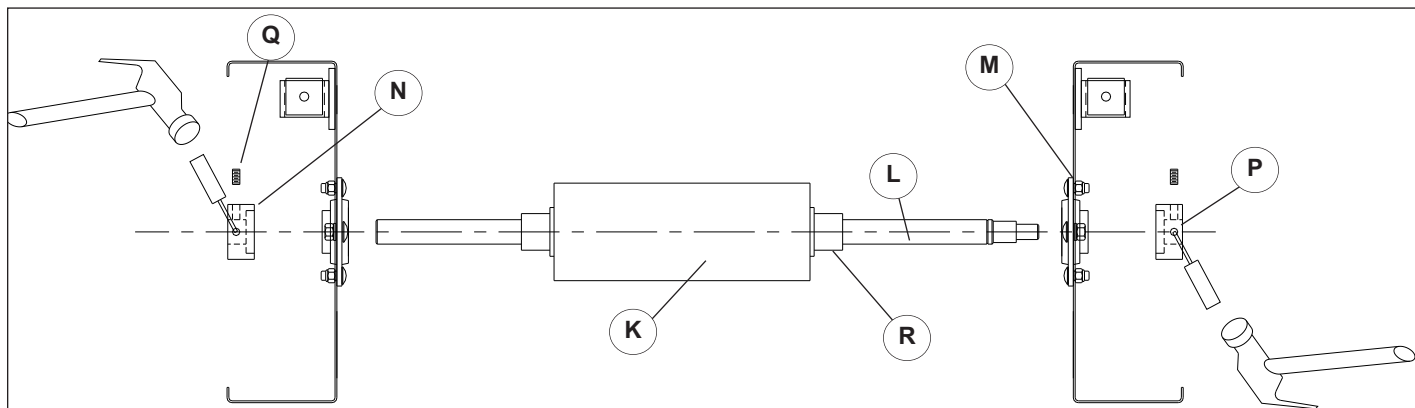

Figure 5.3
MAKE SURE THAT THE BEARING CAM LOCK FACES OUTWARD, **FIGURE 5.3.**
Install the roller tube (K) non-drive shaft (shortest end w/no steps) through the bearing plate on the non-drive sideframe, **Figure 5.3**. Roll Door Only: The curtain will roll off the front of the roller tube, away from the wall.
Install the drive shaft (L) with pre-welded spacer (R) through bearing plate on drive sideframe, **Figure 5.3**.
the locking collar to the drive shaft by turning it clockwise by hand until snug, **Figure 5.3**.
Using a hammer and punch, drive the collar clockwise using the driving hole (P) next to the set screw (Q) until it is snug. Tighten the 5/16-18 [8] set screw with a 5/32" [4] allen wrench to lock in place, **Figure 5.3**.